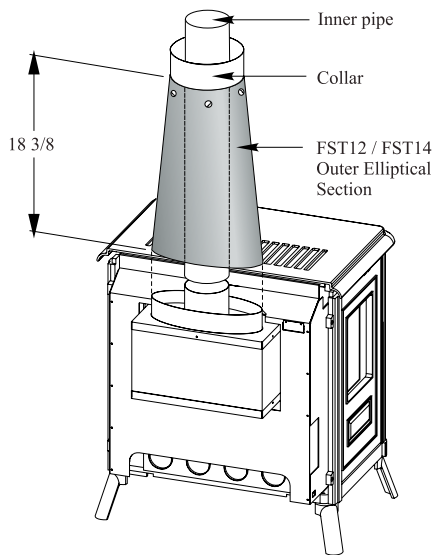

Figure 10. Attaching the FST12 Elliptical Section.
2. First attach the inner pipe to the stove's flue collar using a bead of high temp silicone. Attach the outer elliptical section as shown in Figure 10. Secure it with four sheet metal screws.
First attach the inner pipe to the stove's flue collar using a bead of high temp silicone. Attach the outer elliptical section as shown in Figure 10. Secure it with four sheet metal screws.